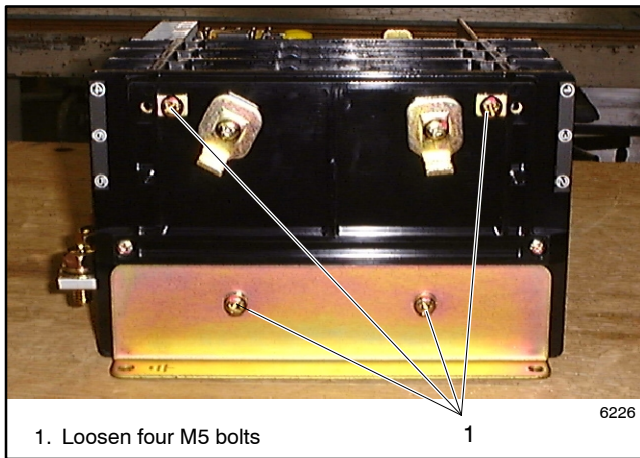
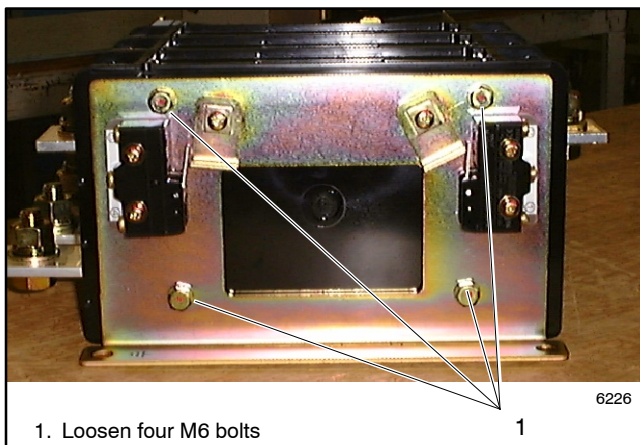
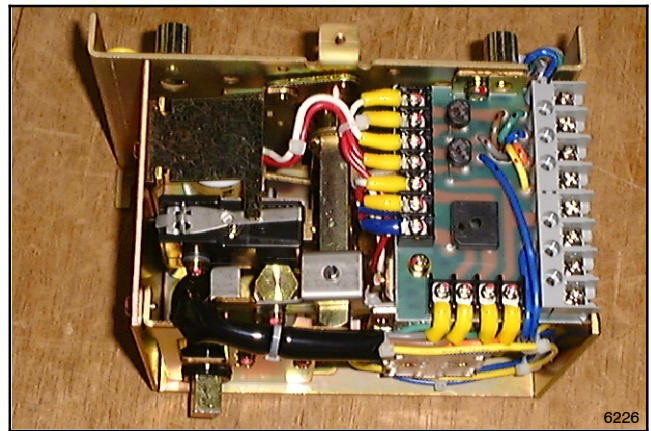

Figure 8-4 Separating Units, 100 and 200 Amp
Figure 8-5 Separating Units, 400 Amp
Figure 8-6 Mechanical Unit
- Loosen four bolts and separate the mechanical unit from the current-carrying unit. See Figure 8-4, Figure 8-5, and Figure 8-6.